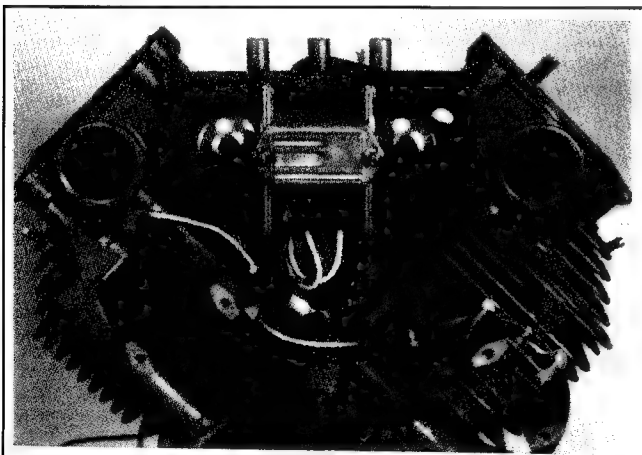

Figure 11-26. Rectifier-Regulator Connected.
3. Connect terminal block to the rectifier-regulator. See Figure 11-26.